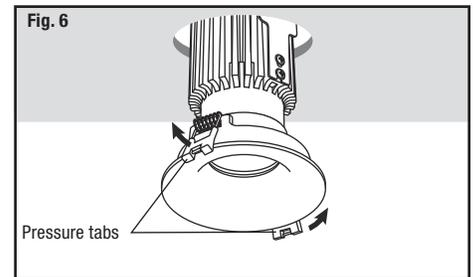

Fig. 6
7. Push the pressure tabs upwards towards the LED engine (Fig. 6).